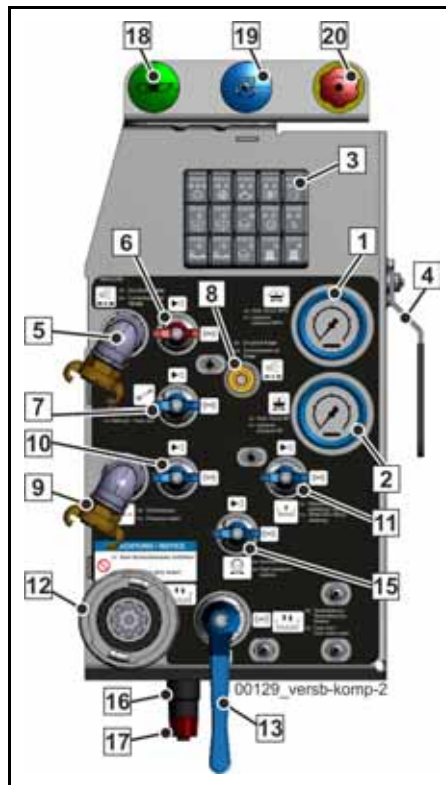

Fig. 186
Caption for (Fig. 186)
The water system can be controlled both via the local control (**Fig. 186**) and the remote control.
- Connect a pressure hose to the water connection (12) (**Fig. 186**).
- Open the ball valve (13) (**Fig. 186**) so that fresh water can flow into the water case.
- Close the ball valve (13) (**Fig. 186**).